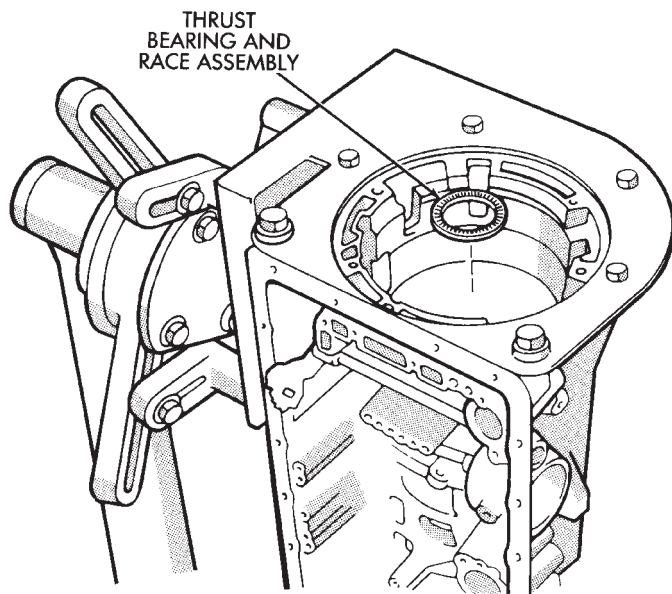

Fig. 46 Removing Planetary And Brake Drum Thrust Bearing And Race Assembly
(55) Remove planetary and brake drum thrust bearing and race assembly (Fig. 46).